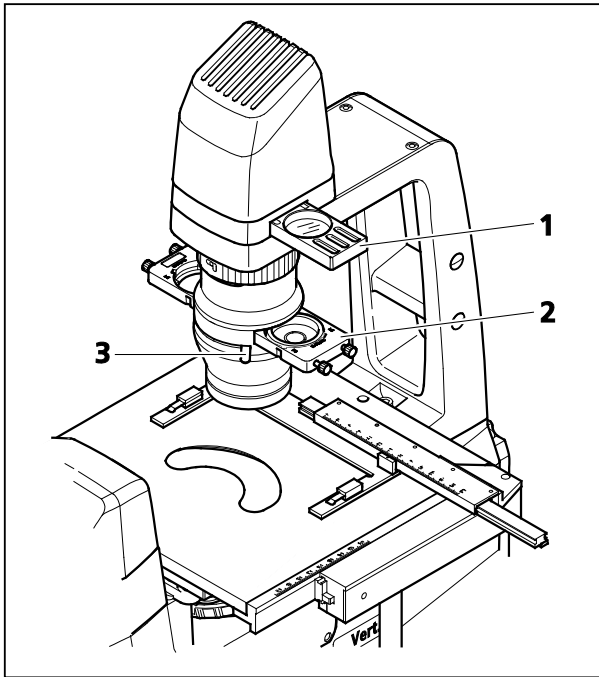

Fig. 4-2 Setting Bright Field
- Move the center position on the slider (Fig. 4-2/2) of the condenser or the position for bright field on the condenser with modulator disk into the light path.
- Use the lever (Fig. 4-2/3) or the setting wheel to close the aperture diaphragm until optimum contrast is obtained.
- If required, adjust illumination intensity by turning the **on/off** control button or inserting the attenuation filter into the filter slider (Fig. 4-2/1) and moving it into the light path.